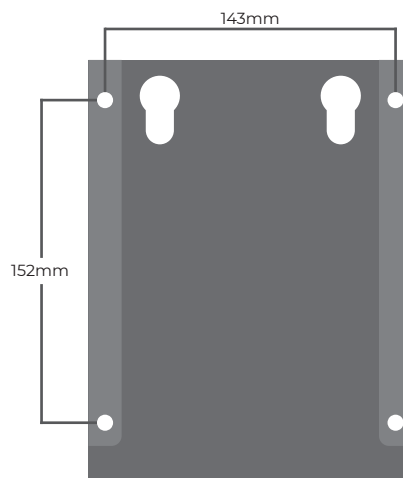

Fig. 5.4.3
1. Refer to the Fig. 5.4.3 to understand the dimensions of the wall bracket. Please make sure the space on the wall is at least 5.62" x 5.98" (143mm x 152mm).